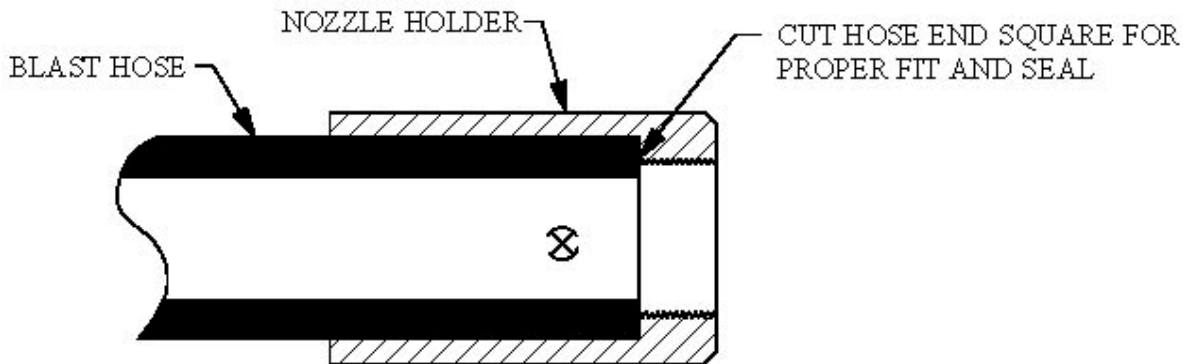

Figure 8.3 – Hose End Fit up
- 8.8. **Blast and Air Hose Gaskets:** All air hose, blast hose, and threaded couplings have gaskets that seal the connection. To prevent loss of air pressure and/or premature abrasive wear replace these gaskets when leaks are found. Inspect the couplings daily for leaks and wear. Replace gaskets when visible wear or leaks are found. When installing or replacing hose couplings cut the hose end square for secure fit (see Figure 8.3). To assure proper coupling connection always use fittings that are the same brand. See the drawings and part lists in Section 9.1.